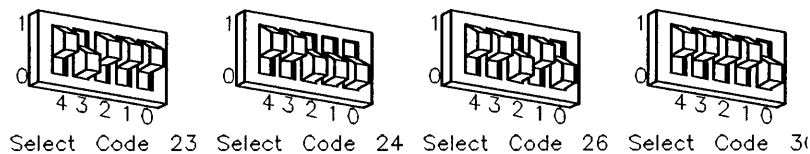

Figure 10-4. HP-IB Interface Card Select Code Settings
2. Set these switches to one of the four select codes given in Figure 10-4, unless you have used them elsewhere. Refer to the installation note that came with the interface if you need additional switch settings.